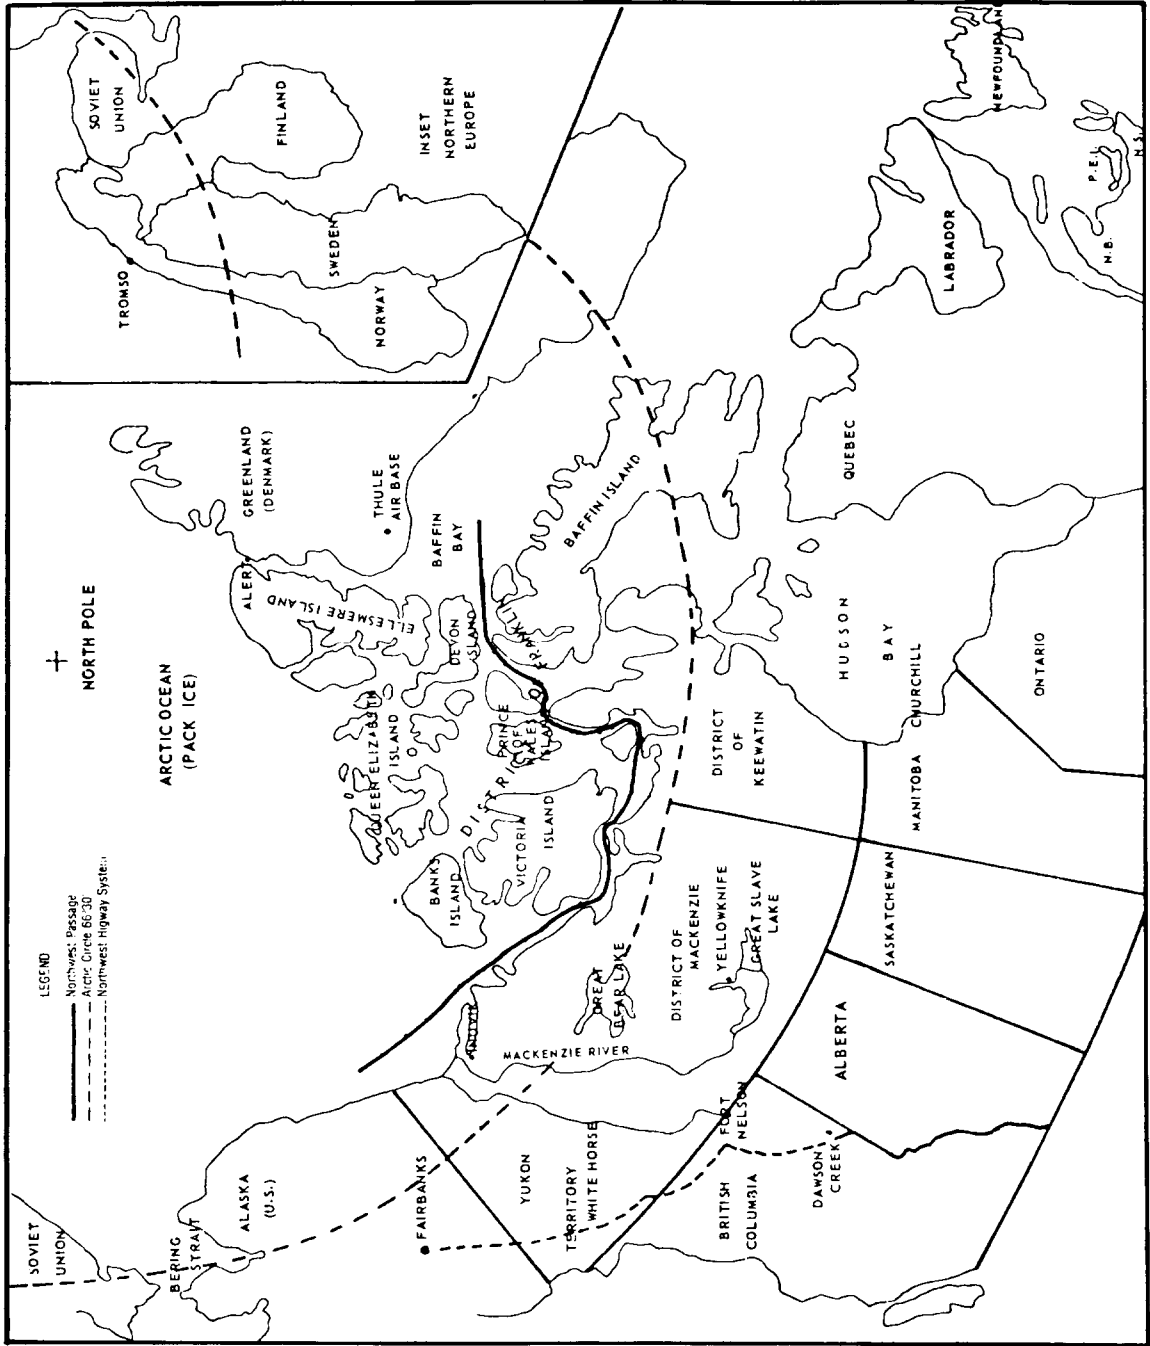

Figure 1-1 Map of Northern Canada and Neighbouring Countries with Inset of Northern Europe
4. The area of northern operations for the purpose of the manual, is defined as those areas which lie north of the temperate zone where environmental conditions require the application of special techniques and equipment. About 45 per cent of the North American continent and 65 per cent of the Eurasian land mass lie in this area. The land mass contains mountainous regions, open, flat or rolling country, and light to heavily wooded areas. This area is snow covered for periods of weeks, months or even continuously. In the mountainous regions, areas of permanent ice fields or glaciers are common. The Arctic Ocean has heavy ice conditions with ice islands encountered north of latitude 70°. See Figure 1-1 for map of Northern Canada.